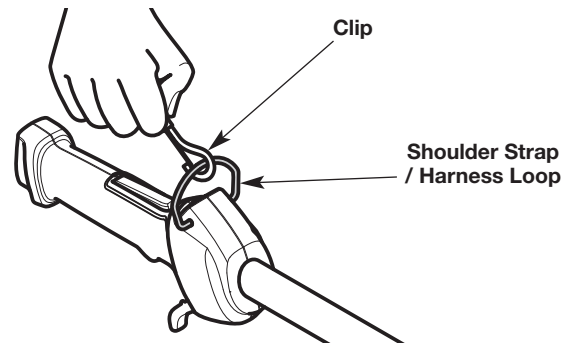

Fig. 8
5. Snap the clip onto the shoulder strap / harness loop (Fig. 8).